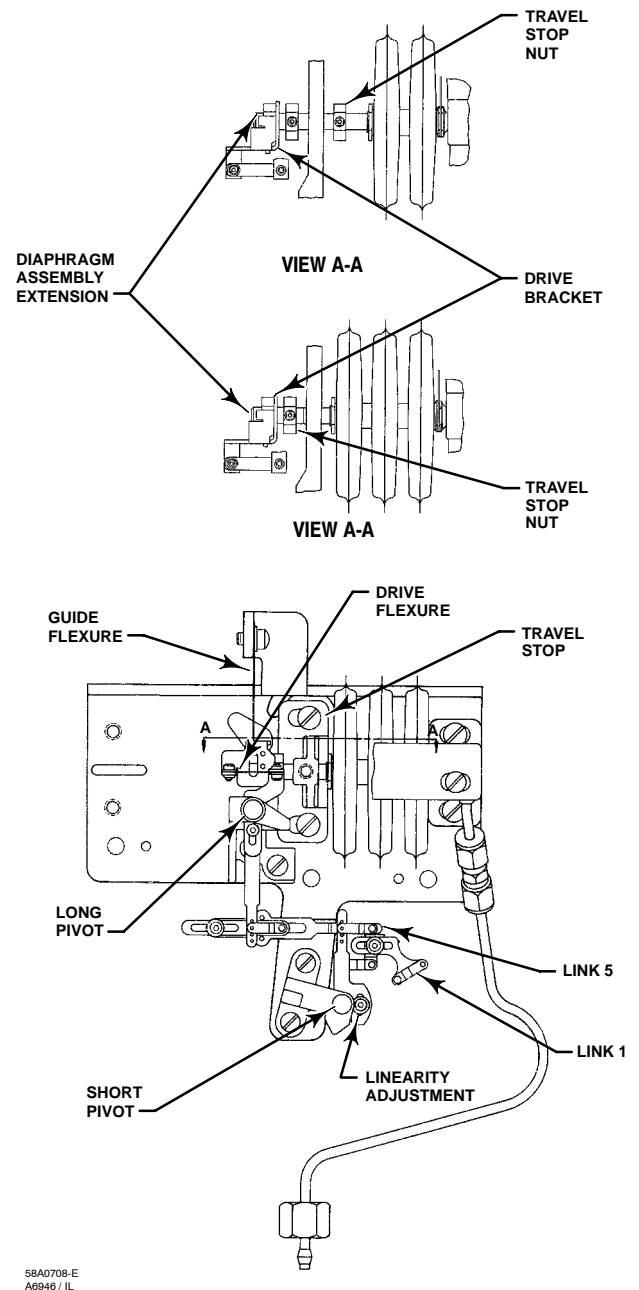

Figure 6-22. Process Input Capsular Element Assembly Part and Adjustment Locations (Positive and Compound Pressure Element Shown)
1. Remove the two screws (key 6), and lift off the proportional band indicator cover (key 36).
2. Note the location of the connection holes and disconnect both ends of link 5 (key 88) from the lever arms of the two pivot assemblies. Refer to figure 6-22 for parts locations.
Refer to figures 6-22 and 7-5.
1. With an Allen wrench, loosen the set screw in the hex nut of the drive bracket assembly (key 84).
2. Loosen the screw (key 98) that holds the guide flexure to the tab on the mounting plate (key 77). The guide flexure location is shown in figure 6-22.
4. Slide the drive bracket assembly (key 84) along the diaphragm capsule extension (key 82) until the guide flexure is aligned with the center of the long pivot clevis assembly (key 78).
5. Tighten the machine screw (key 98) and the set screw in the hex nut to fasten the drive bracket assembly in that position.
improved with the linearity adjustment. See figure 6-22 for the linearity adjustment screw location.